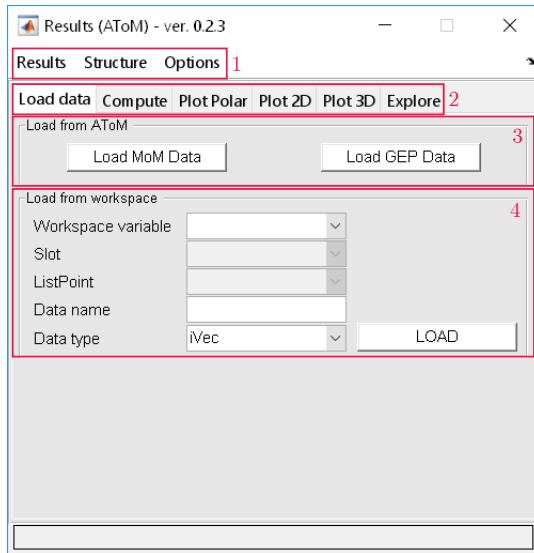

Figure 7.2: Graphical user interface of Resultg - Load tab
Fig. 7.2 shows the basic layout of **Results**' GUI. Menu Results contains entries **Save**, **Load** and **Quit**, which allows to save and load data or quit Results respectively. Structure menu allows to manage internal repository and for this reason contains entries **Create Slot**, **Create ListPoint**, **Remove Slot** and **Remove ListPoint**. Last menu Options contains items **Load options** and **Load template** which allows to load user pre-sets of graphical behaviour or important user values.
Box 2 of Fig. 7.2 contains six special tabs which are used for following actions:
Load tab, see Fig. 7.2, gives two possibilities how to load data into Results, directly (automatically) from **AToM** (see Box 3) or manually from Matlab workspace (see Box 4). Commands for data loading directly are shown in Listing 7.7.
- load data via panel “Load from workspace” (see Fig. 7.2 Box 4) or directly from MATLAB command line.